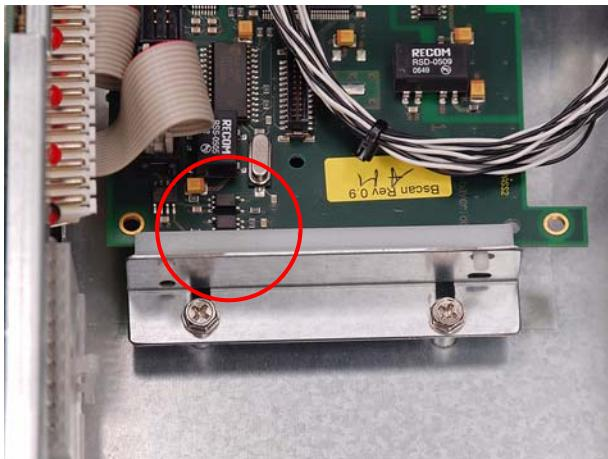

Figure 7.165 Attaching the board
**Attention:** Do not damage the boards and structural elements with fastening elements (see Figure 7.165)!